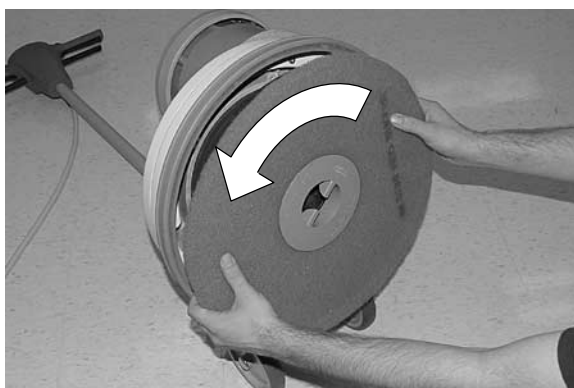

FIG. 7
3. Position the pad driver/brush on the drive motor hub and turn it counter-clockwise to engage (Figure 7).